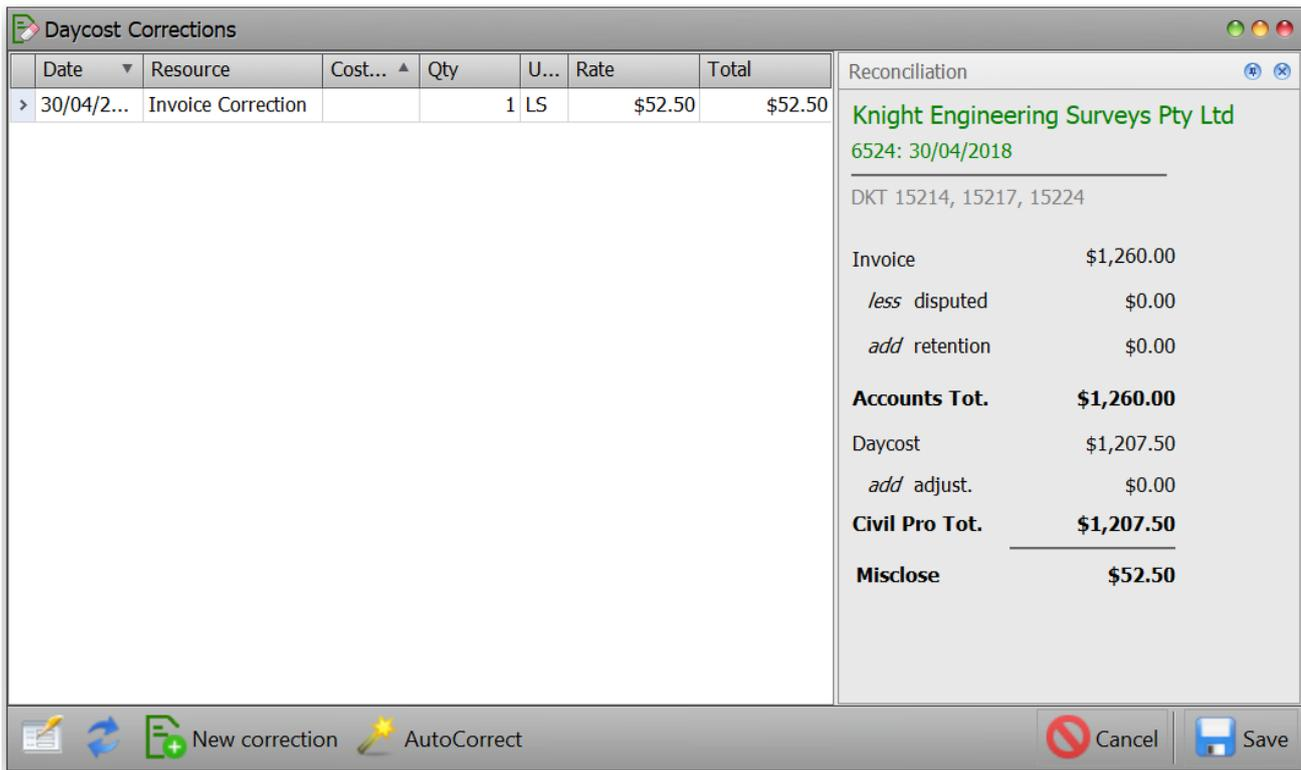

Figure 78 Daycost correction
1. At the bottom left of the screen click on Auto Correction to open the Daycosts Correction screen. It will automatically calculate how much adjustment is necessary to correct the daycost It will also distribute across cost codes to reflect the allocation of any assigned cost codes (Figure 78)